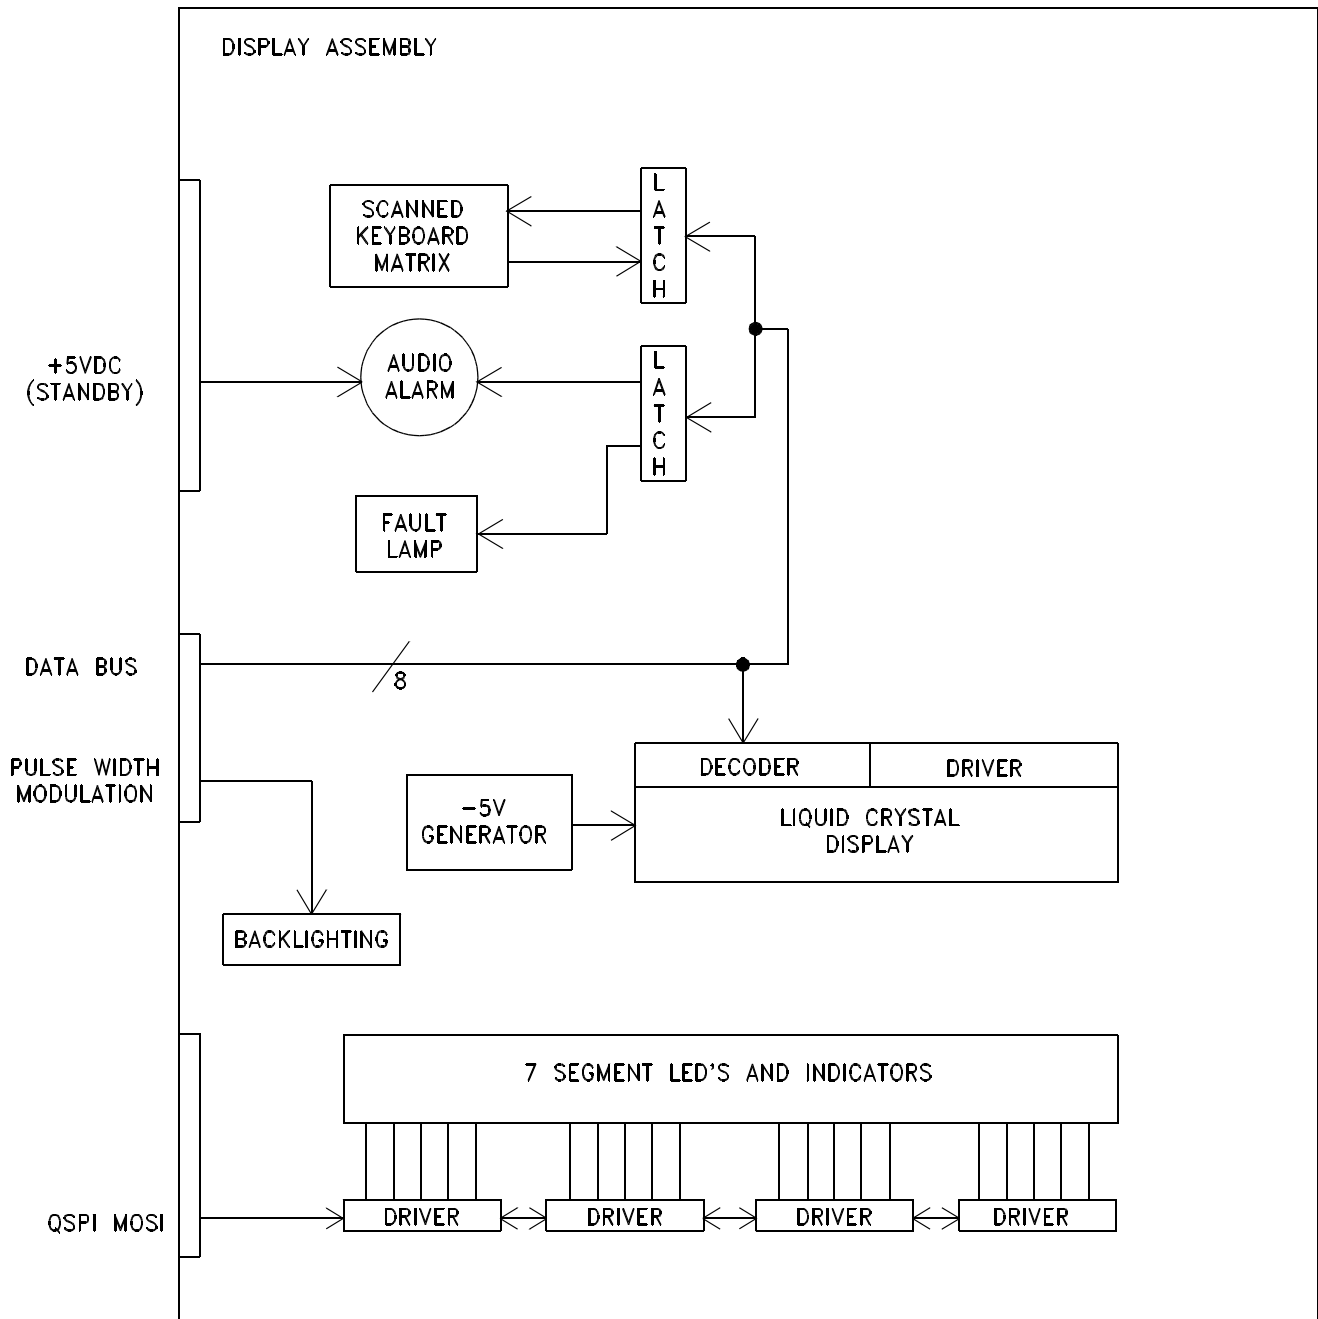

Figure 3-17. Display Assembly Functional Diagram
**3-4.3 Display Assembly Circuits.** The Display Assembly (see Figure 3-17) consists of a bus interface, a controller PAL, LCD interface, audio alarm and fault lamp circuit, encoder interface, parallel-to-serial shift registers, four serial load LED display drivers and their associated LEDs, and a number of backlight LEDs.